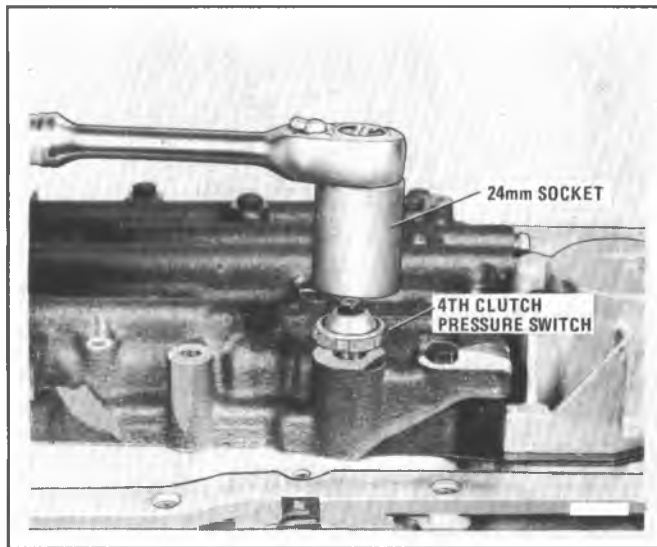

Figure 7A6-228 Fourth Clutch Pressure Switch
1. Position control valve body as shown in Figure 7A6-228.